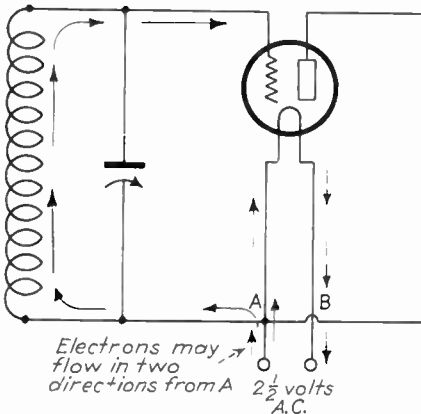

FIG. 211. This circuit will hum.
The filament shown in Fig. 211 is heated by a 2½-volt alternating current. During one surge of the alternating
1. During one cycle of the alternating current, the electrons will flow onto the filament at *A* (see Fig. 211). When they reach point *A*, they will branch out and flow in two directions. Show these two directions by means of arrows.
2. When the alternating-current surge is on the *A* side of the filament (Fig. 211), will the grid be made more positive or more negative?
3. When the surge enters on the *B* side of the filament (Fig. 211), will the grid be made more positive or negative?
1. Electrons from the B battery have a choice at point *A* (Fig. 211) of flowing in two directions. Which path will most of them take? Give